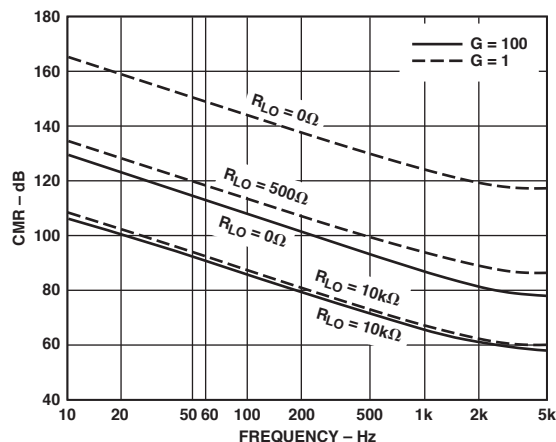

Figure 10a. AD204
**Common-Mode Performance.** Figures 10a and 10b show how the common-mode rejection of the AD202 and AD204 varies with frequency, gain, and source resistance. For these isolators, the significant resistance will normally be that in the path from the source of the common-mode signal to IN COM. The AD202 and AD204 also perform well in applications requiring rejection of fast common-mode steps, as described in the Applications section.